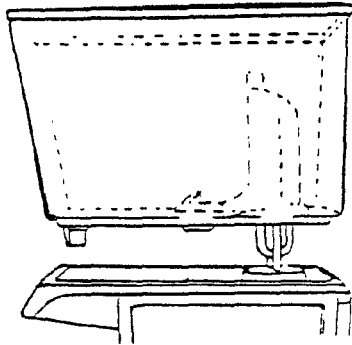

Fig. 5
7. Slide bowl over the cooling tubes and assembly the bowl to the dispenser. Be careful not to wrinkle gasket as it will result in beverage leaking out of bowl (refer to Fig. 5).